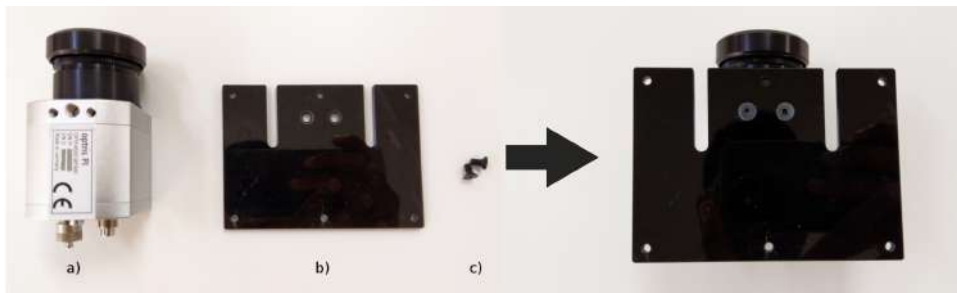

Figure 161: Steps to install the add-on
- First, attach the camera to the mounting panel with the provided fasteners DIN 7991 M4x8, see figure 161.